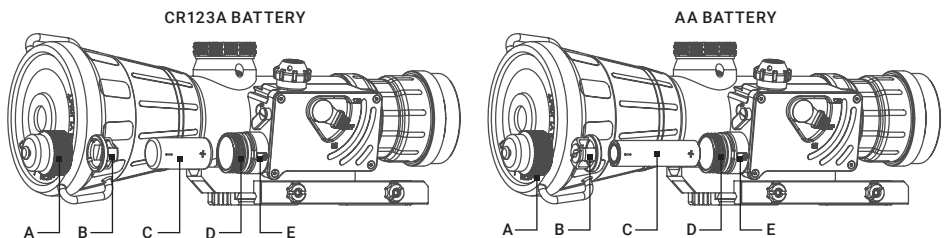

FIGURE 2-1. COMANCHE-40ER BATTERY INSTALLATION
Install the battery as follows (refer to Figure 2-1):
1. Unscrew the battery cap (A) and check the position of the adapter (B). See Figure 2-1 for the correct positioning of the threaded adapter, which changes depending on the battery being installed.